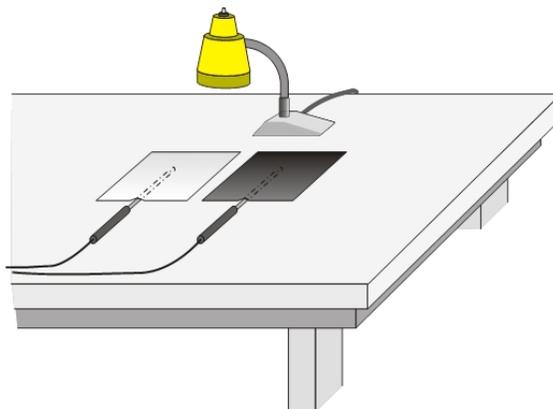

Figure 1
1. Tape two Temperature Probes to the table surface in the arrangement shown in Figure 1.
2. Place a piece of white paper over Probe 1 and a piece of black paper over Probe 2 as shown in Figure 1.